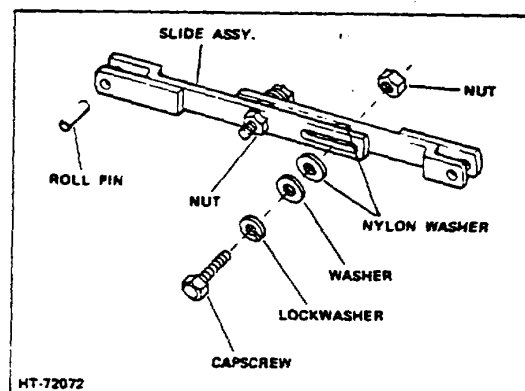

Figure 2-5. Brake Self-Adjuster Assembly
- a. Compress the self-adjuster (Fig 2-5) by loosening the nuts and capscrews just enough to allow the two halves to slide together.
If self-adjuster was disassembled, assemble the components as illustrated in Figure 2-5.
- b. Tighten capscrews (Fig 2-5) to a torque of 14 to 16 lb-in.